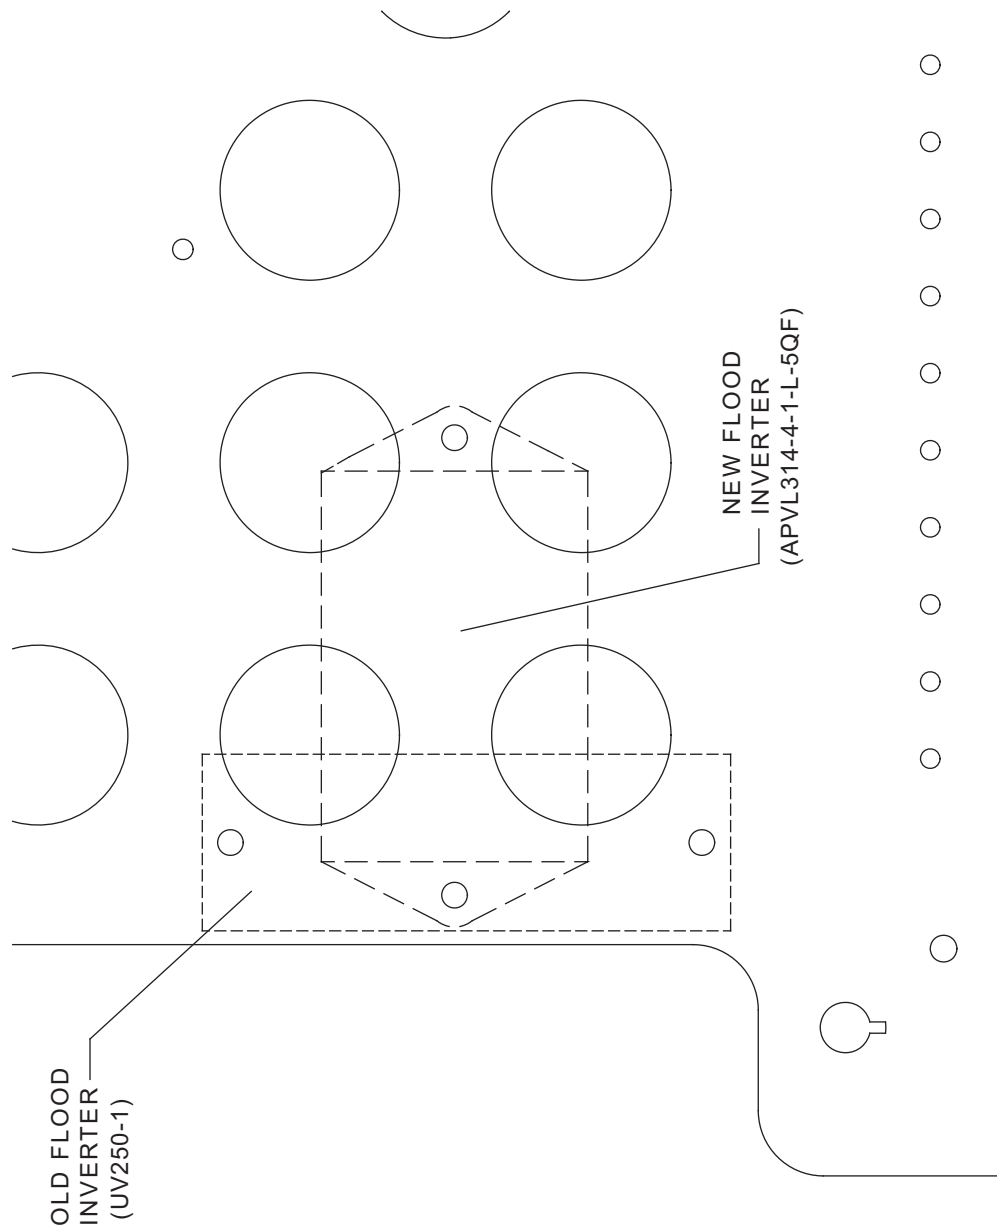

Figure 3 - New Flood Inverter Template
- 10.23 Drill holes for new flood inverter per template provided (see Figure 3) and clean all debris before continuing to the next step.